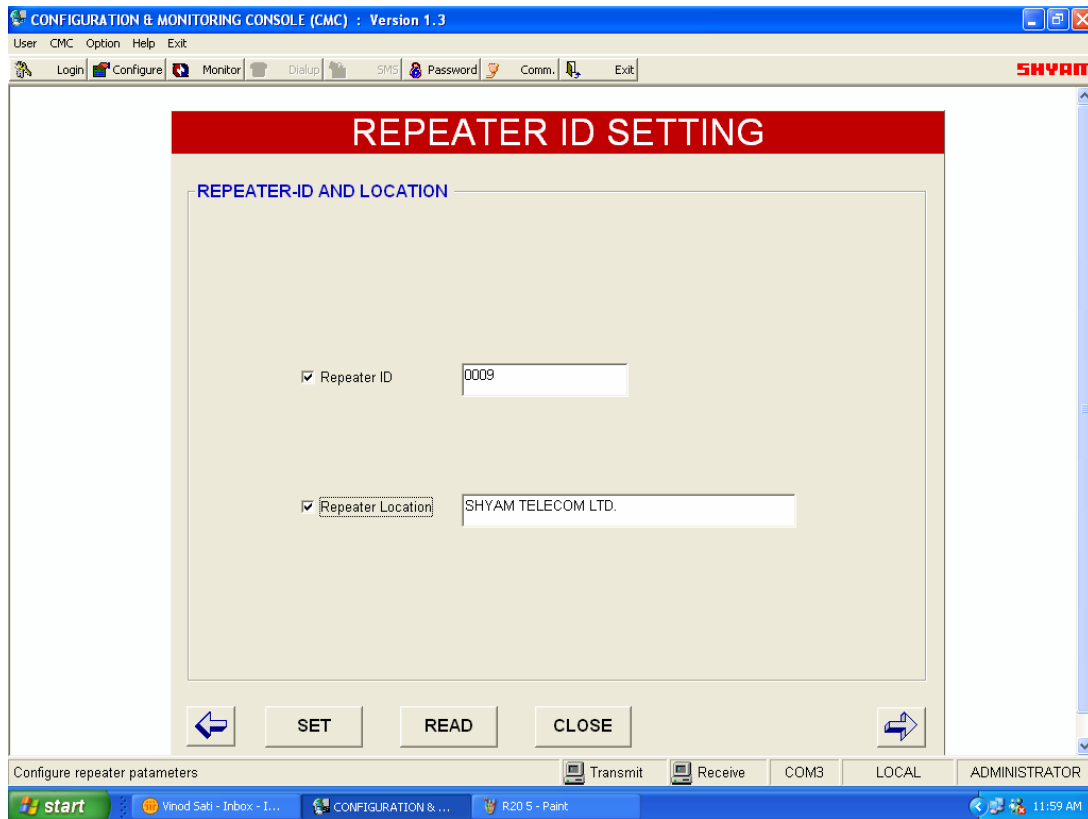

Figure 4: Repeater ID Setting
a) Repeater ID (Figure 4)
b) Repeater Location (Figure 4)